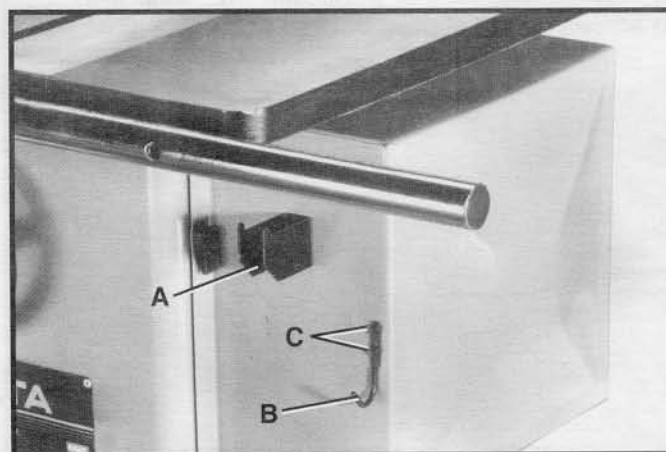

Fig. 36
1. Assemble the miter gage holder bracket (A) Fig. 36, and wrench holder bracket (B) to the four thru holes on the front of the motor cover using the four 1/2" self-tapping screws supplied, two of which are shown at (C).